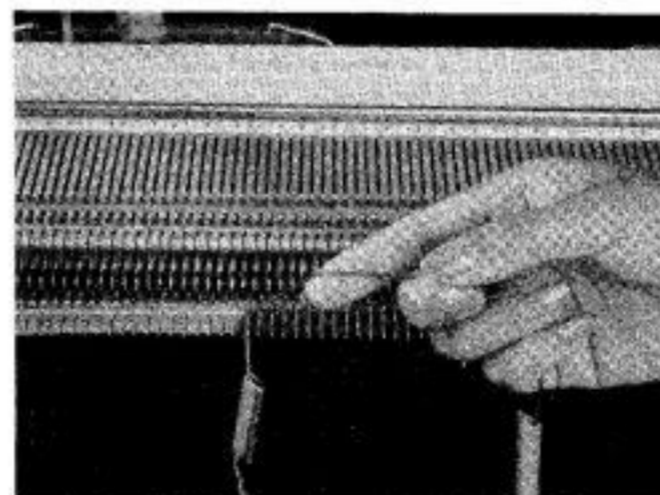

Fig. 63
(i) Slide the next weight down and, passing the wool behind the previous strand (Fig. 63) so as to form a loop round it, place this colour in the required number of needle hooks.
**NOTE :** When changing colour in a row of knitting, the strands of wool must be passed round each other as shown in Fig. 63 to avoid making a hole in the fabric.